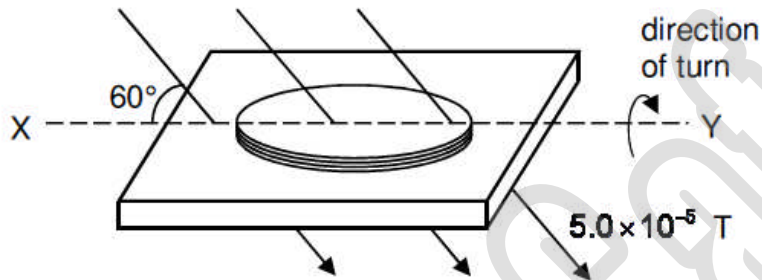

Fig. 5.1
(b) Fig. 5.1 shows a magnetic field of flux density $5.0 \times 10^{-5} \text{ T}$ passing through a short-circuited horizontal coil of wire. The field makes an angle of 60° with the plane of the coil. The coil has 400 turns, a resistance of $4.0 \ \Omega$ and an area of 25 cm^2 . After an initial push, the coil turns over once about the axis XY in the direction shown.
- (iii) On Fig. 5.1, indicate the direction of the induced current in the coil as it is being turned from the position shown. [1]